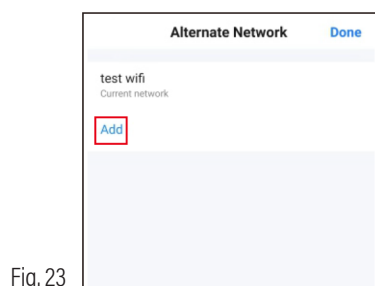
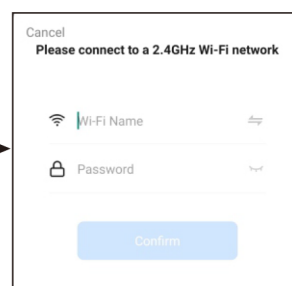

Fig. 23
Fig. 24
2. App configuration will be completed as shown in Fig.23. Successful configuration will appear as shown in Fig.24. Names of devices that have been configured successfully can be changed, and the locations of the rooms where the corresponding devices also can be selected.